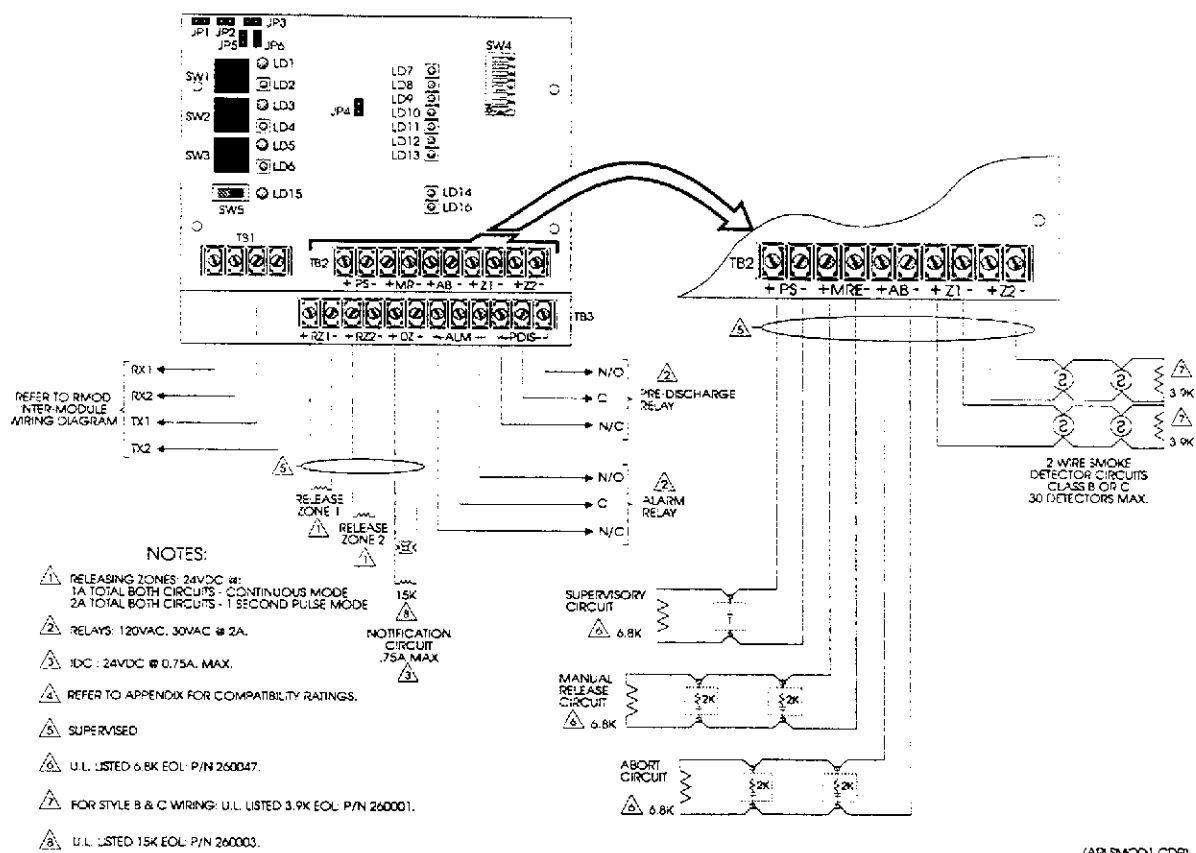
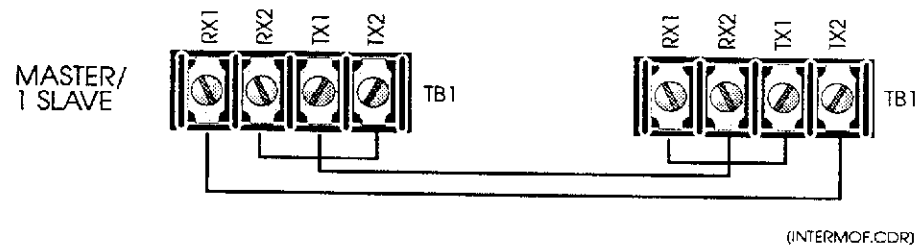

Figure 2-17: RMOD Wiring
Figure 2-18: RMOD Inter Module Wiring
Refer to Figure 2-17, and Figure 2-18.
1. Wire the inter-RMOD connections within a master/slave RMOD module group serving a related hazard(i.e. room and under floor). The Master/Slave connections are made to TB1 per Figure 2-18.